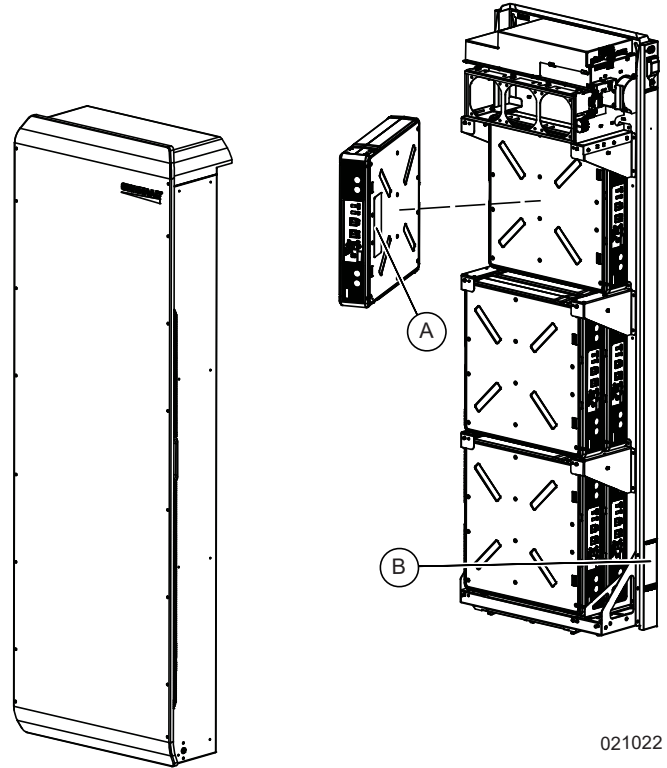

Figure 2-3. Serial Number Location
See Figure 2-3 to locate serial number for the battery cabinet (B) and the individual battery modules (A). The serial numbers are located on the product nameplate labels.